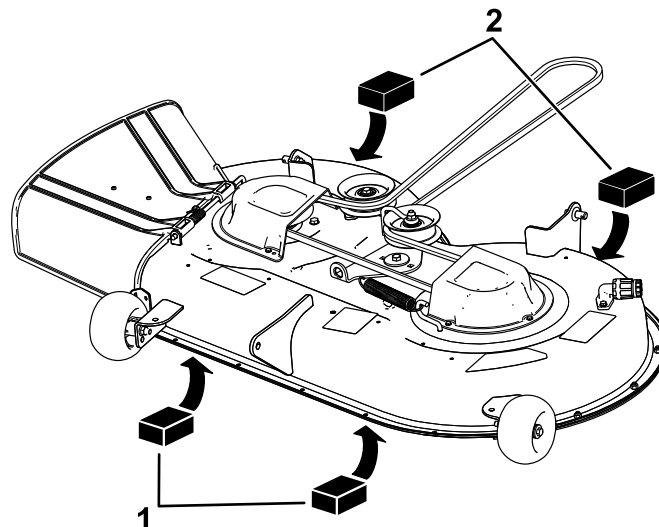

Figure 63
4. Place 2 blocks, each having a thickness of 6.6 cm (2-5/8 inches), under each side of the front edge of the deck but not under the anti-scalp roller brackets (Figure 63).
5. Place 2 blocks, each having a thickness of 7.3 cm (2-7/8 inches), under the rear edge of the cutting deck skirt, 1 on each side of the cutting deck (Figure 63).